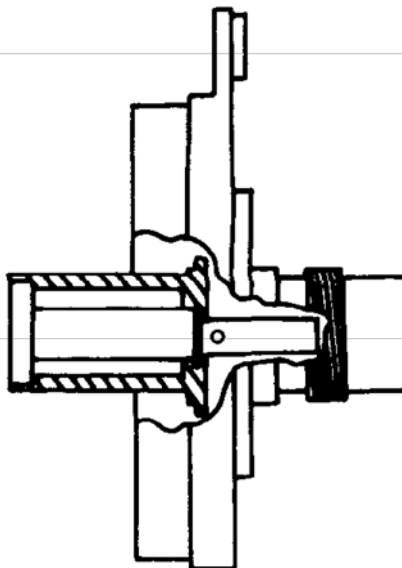

Figure 20
2. When the front body assembly is attached, the front body cylinder forces the secondary check backward against the spring. Seal between secondary check and rubber bushing is broken. See Figure 20.